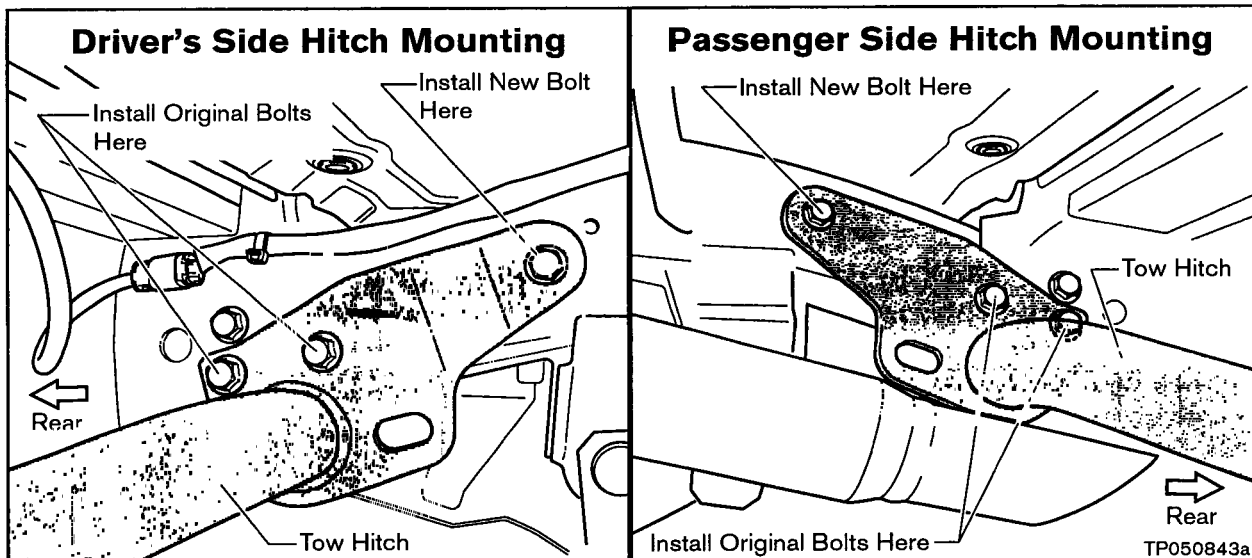

Figure B5
**NOTE:** The new Tow Hitch comes with two new mounting Bolts. Install these new Bolts at the locations shown in Figure B5.